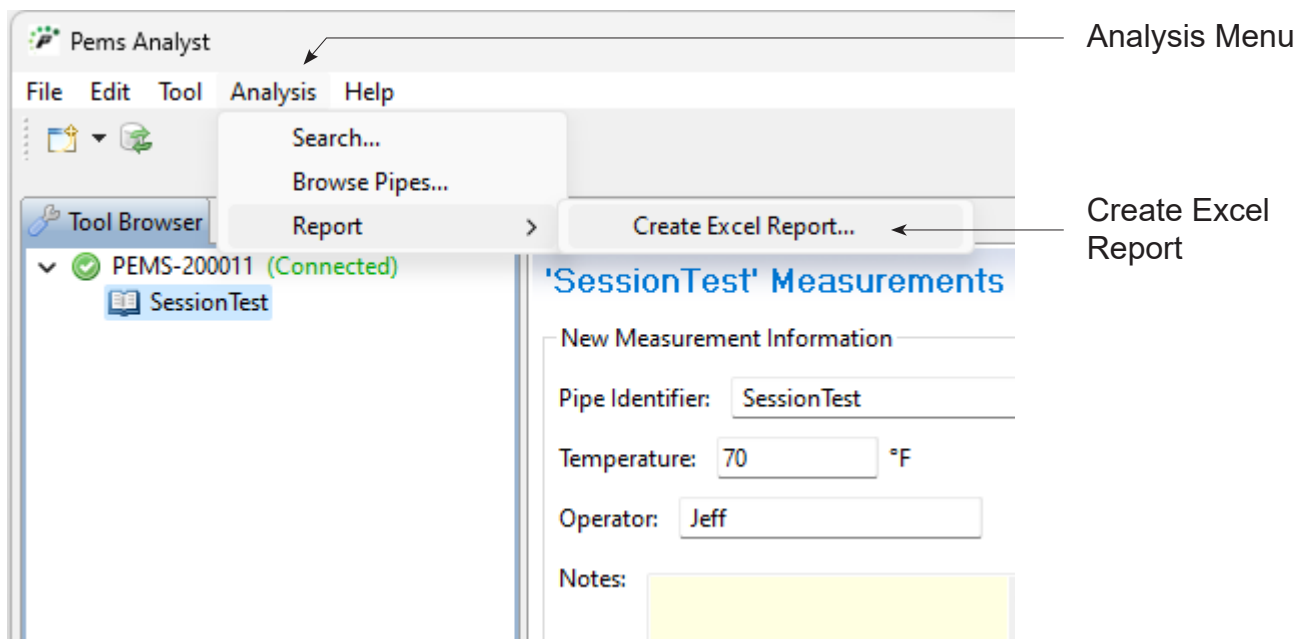

Figure 4-1 - Menu location for Create Excel Report
- Previous measurement session data may need to be re-synchronized to the stored data file in order for it be analyzed or exported. Press the Synchronize button above the tool browser to re-sync all sessions (see fig. 4-1) or right-click on a specific session and choose "Synchronize".